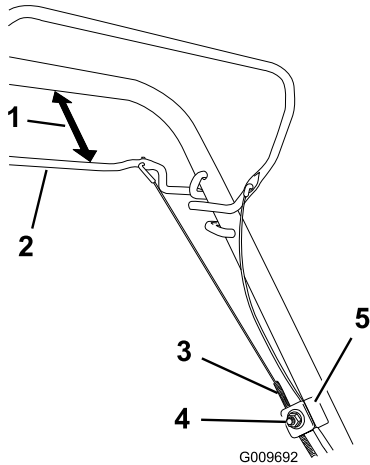

Figure 29
1. Loosen the cable support nut (Figure 29).
2. Hold the self-propel bail 1 to 1-1/2 inches (25 to 38 mm) from the handle (Figure 29).
3. Pull down the cable jacket (toward the mower) until there is no slack in the cable (Figure 29).